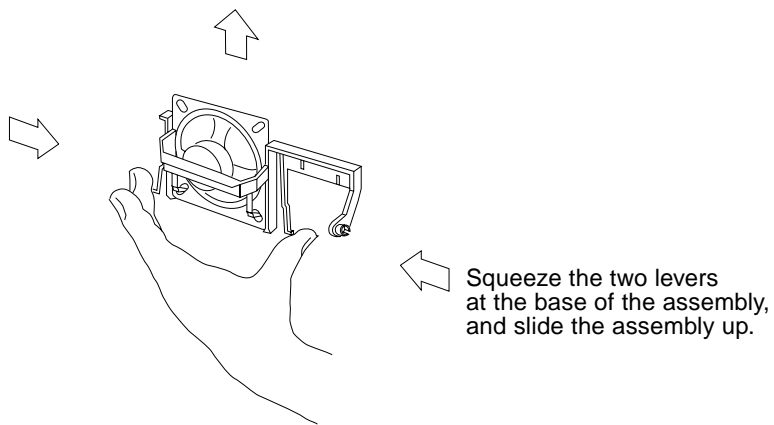

FIGURE 8-5 Raising the Speaker/LED Assembly
2. Raise the speaker assembly to allow removal of the main logic board (see FIGURE 8-5).